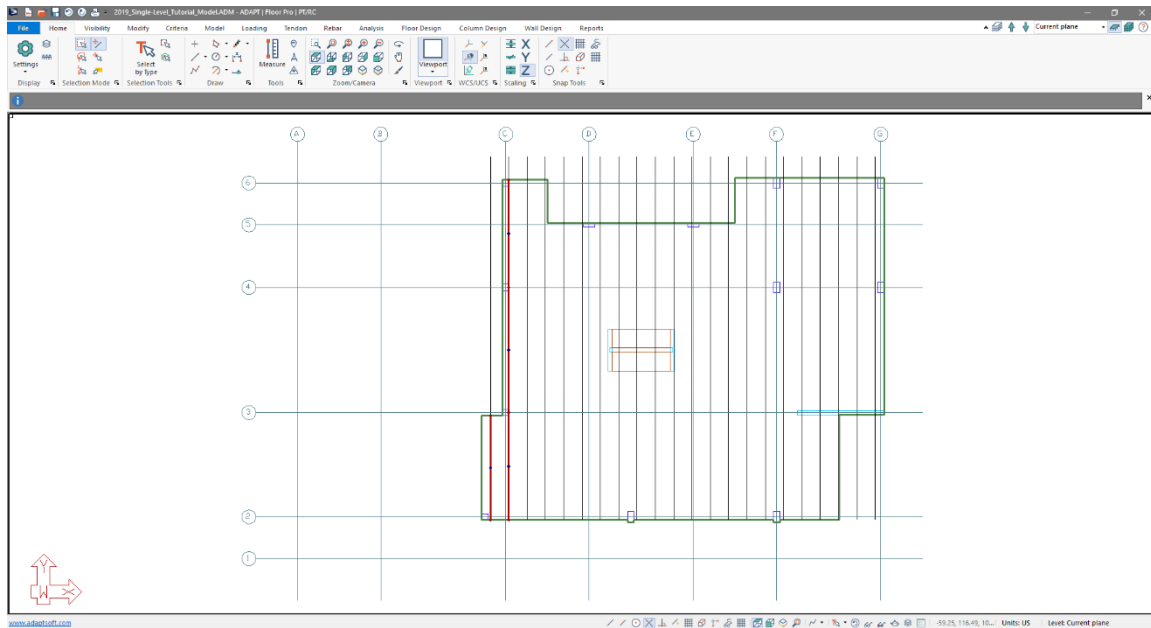

Figure 8-32
- Click on the *Top View*  icon in the **Bottom Quick Access Toolbar**. This will bring you to the view of the model shown in **FIGURE 8-32**.